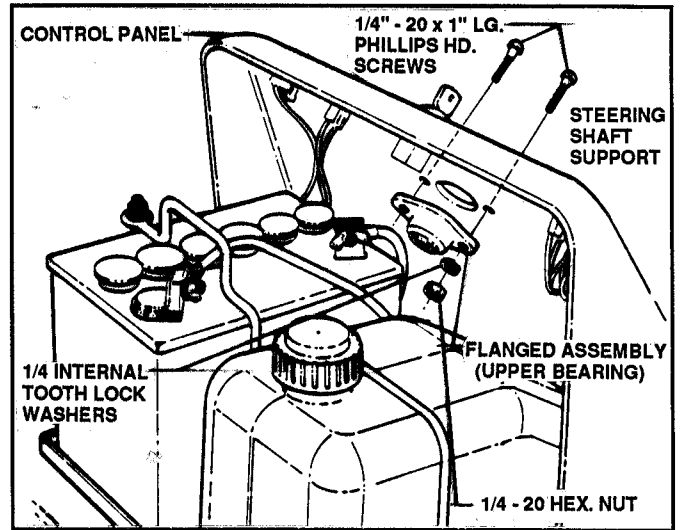

FIGURE 5.11
- (1) Remove steering wheel and steering shaft.
- (2) Remove mounting hardware and flanged bearing from the steering shaft support. See Figure 5.11.